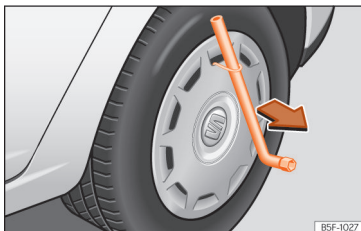

Fig. 184 Remove the wheel cover.
- Insert the box spanner through the hook, rest it on the tyre and remove the wheel trim >>> Fig. 184.